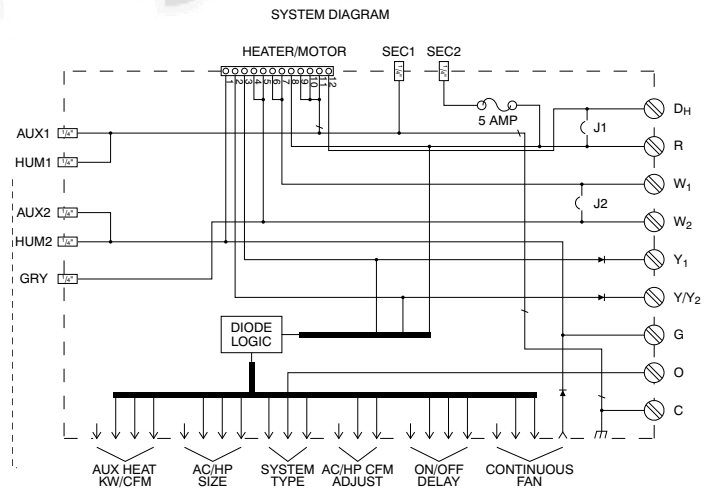

**Fig. 8 – Easy Select Board**
**NOTE:** Layout of actual PCB is depicted in Fig. 8.
The Easy Select taps are used by installer to configure system. The ECM2.3/5.0 uses selected taps to modify its operation to a pre-programmed table of airflows. Airflows are based on system size and mode of operation and those airflows are modified in response to other inputs such as the need for de-humidification (Fig. 8).
and heating mode on air conditioners when electric heat is primary heating source. To ensure safe heater operation in heat-pump heating mode, when electric heaters are energized, the ECM2.3/5.0 will run the higher of heat pump airflow and electric heater airflow. The factory default selection is largest heater range approved (Fig. 8).
The factory default setting for air conditioner or heat pump size is largest unit meant for application with model of fan coil purchased. The installer needs to select air conditioner or heat pump size to ensure that airflow delivered falls within proper range for size of unit installed in all operational modes (Fig. 8).
The factory setting is AC (Fig. 8).
Select low, nominal, or high airflow. The factory selection is NOM. The adjust selections HI/LO will regulate airflow supplied for cooling and heat pump heating modes only, +15 percent and -10 percent respectively. The adjust selection options are provided to adjust airflow supplied to meet individual installation needs for such things as noise, comfort, and humidity removal (Fig. 8).
Select desired time delay profile. Four motor-operation delay profiles are provided to customize and enhance system operation (Fig. 8). The selection options are:
Select desired continuous-fan profile LO, MED, or HI. Airflow are provided to customize and enhance the continuous fan functions (Fig. 8). The possible selections are: